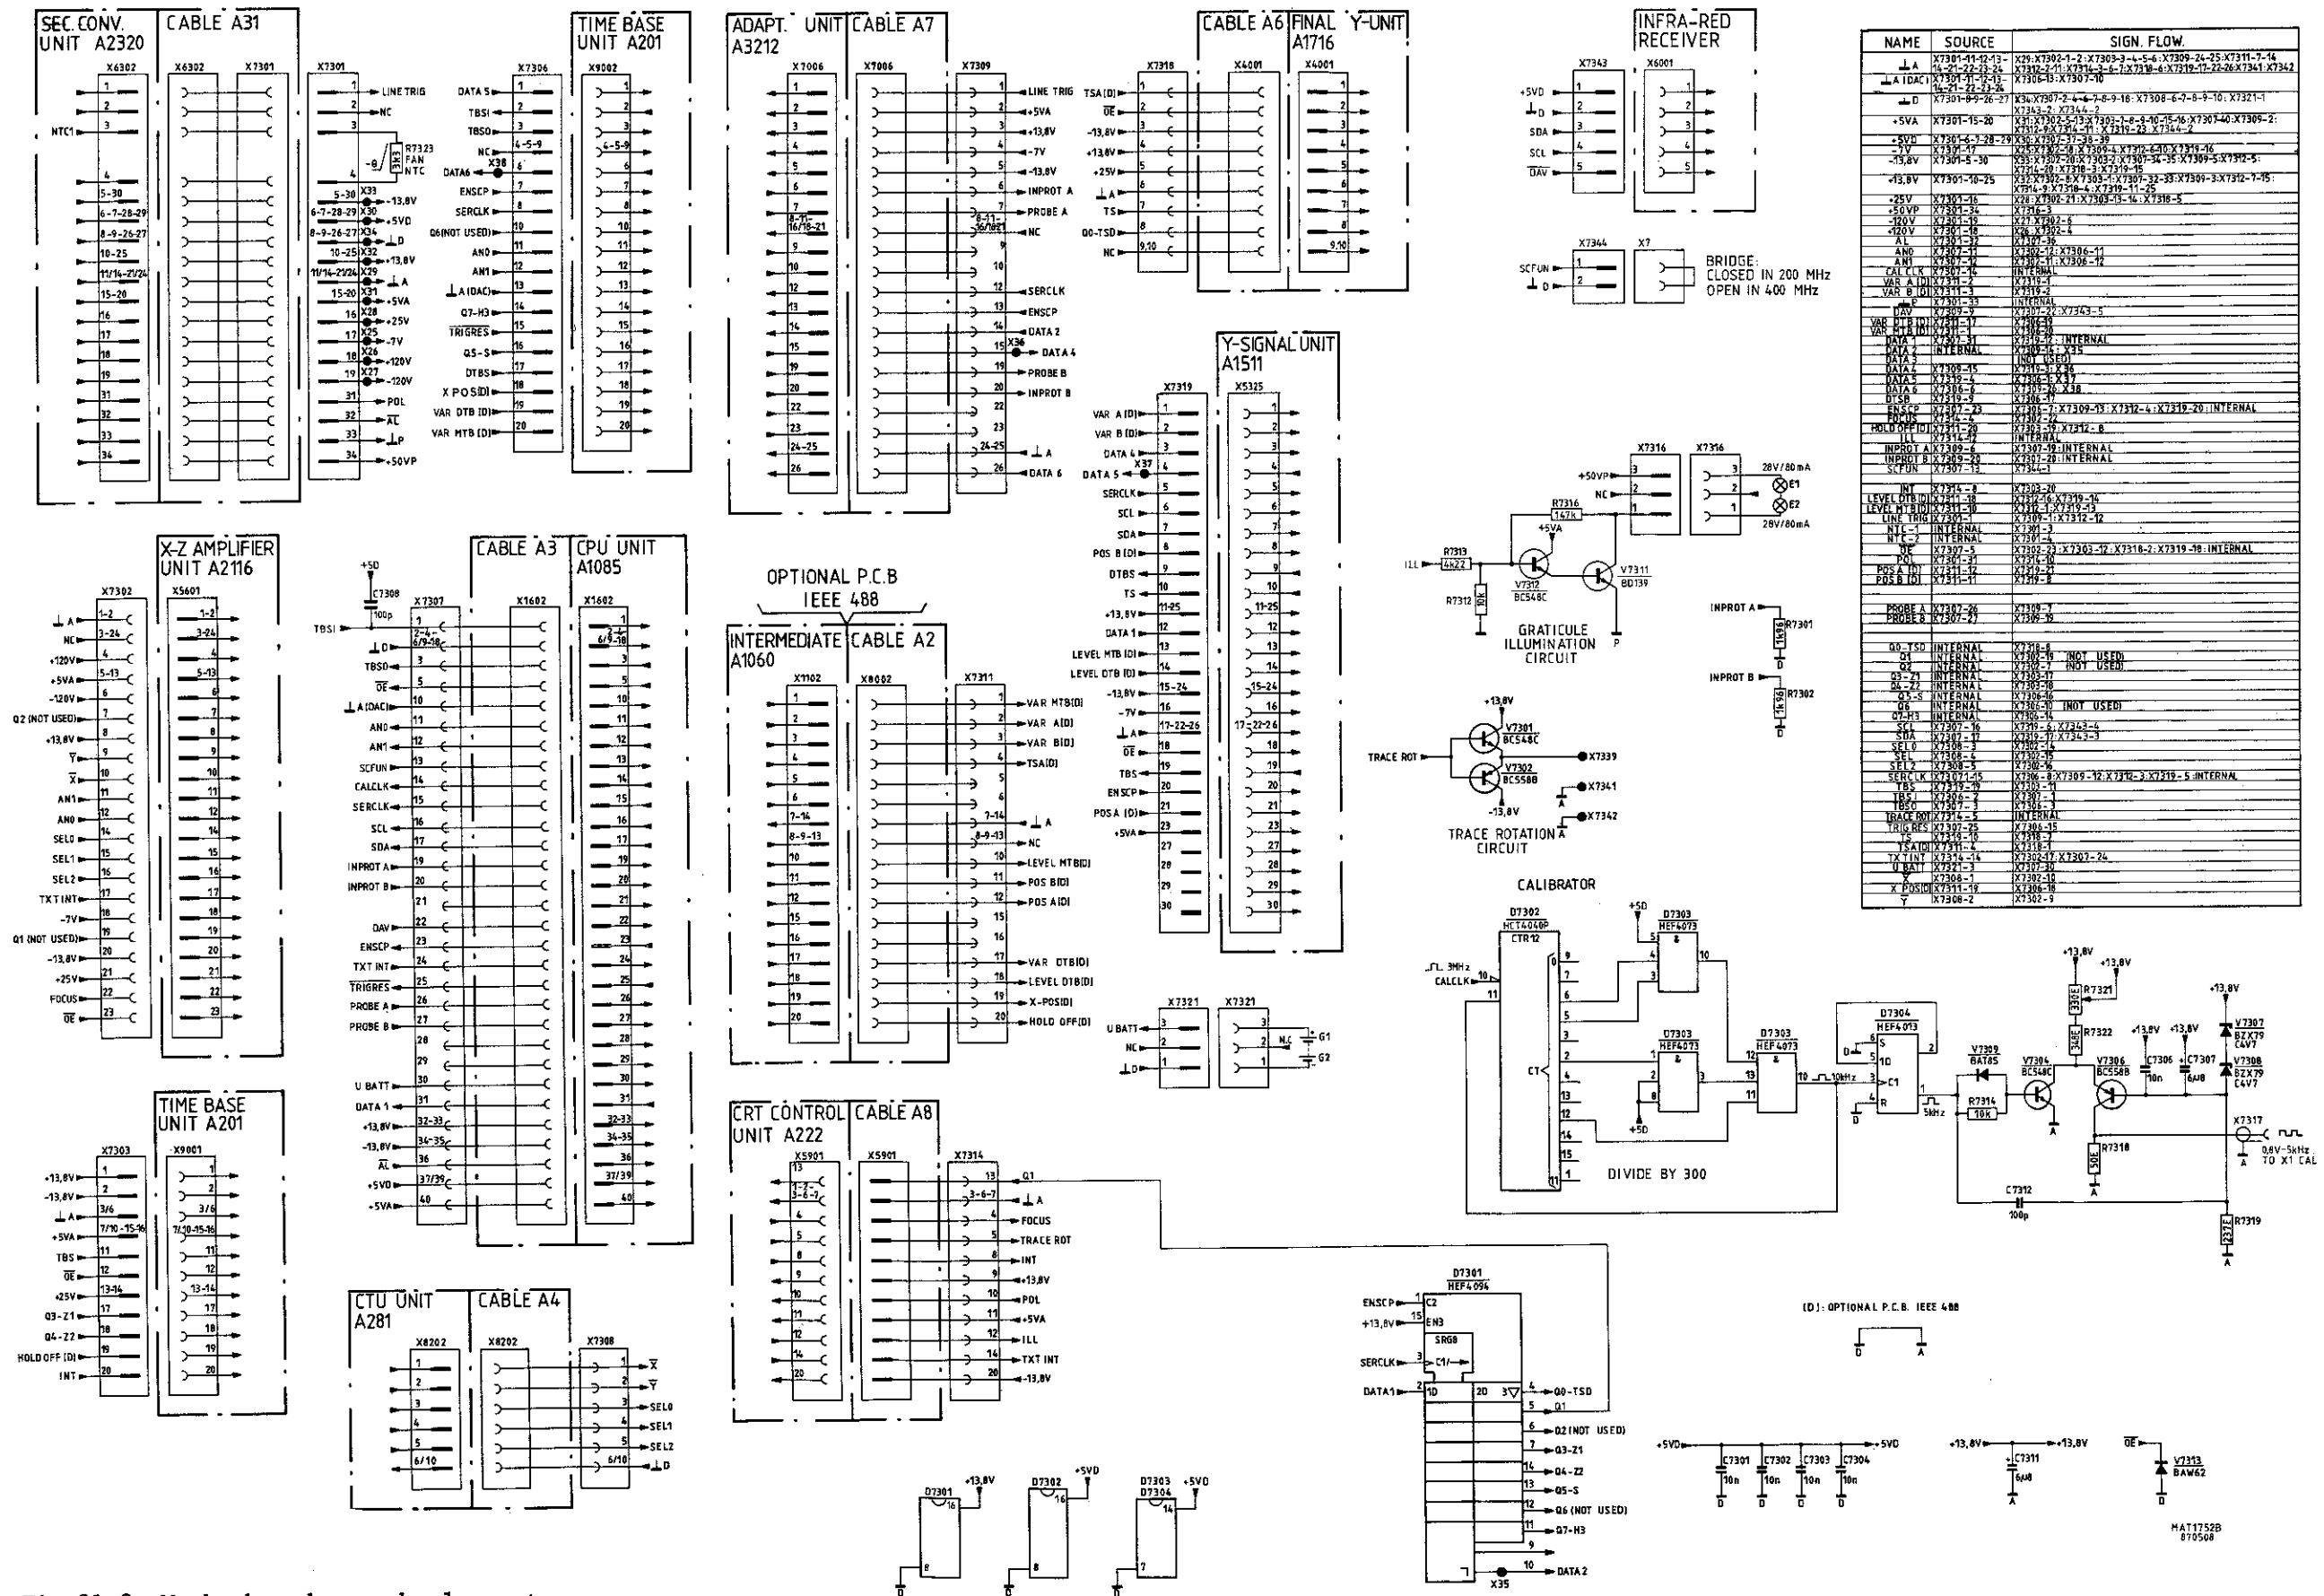

Fig.21.2. Motherboard, p.c.b. lay-out.
21. CIRCUIT DESCRIPTION OF MOTHERBOARD (See fig.21.2)
The various connectors located on the mother board are given in Fig.21.2 together with their functional data.
A survey of signal names, which are present on the mother board, with their source and destinations (signal flow) is also given in fig.21.2.